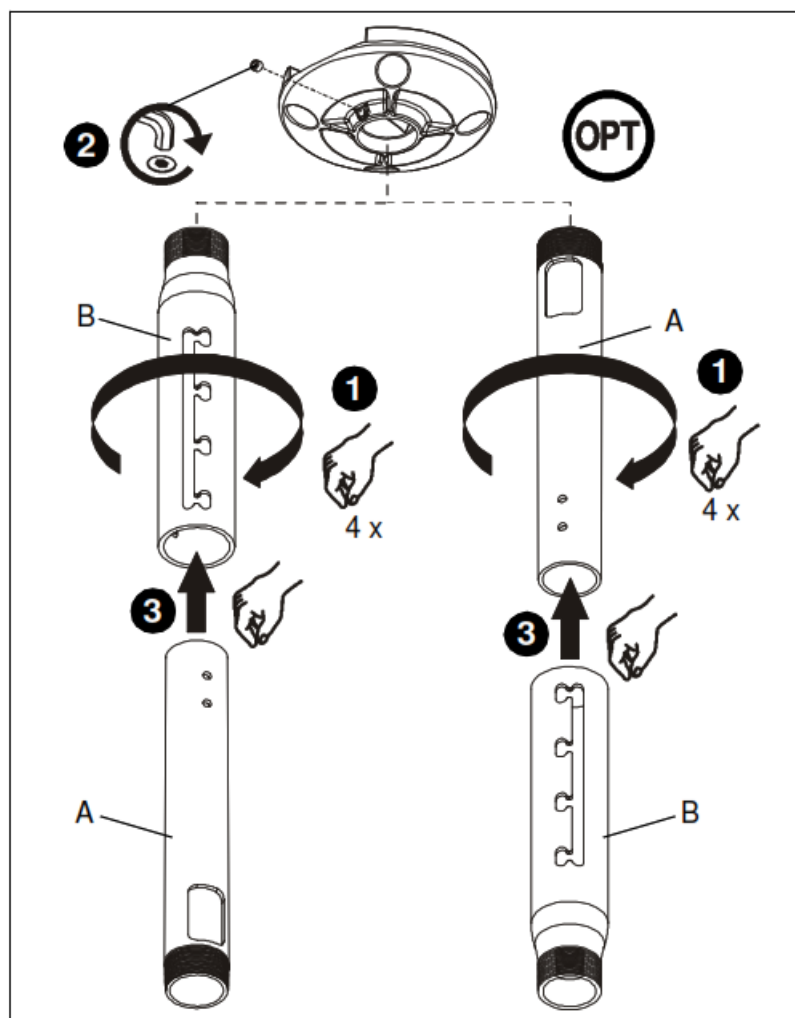

Figure 2
1. Install 1-1/2" NPT threaded column (A or B, as applicable) into plate/adaptor (See Figure 2). Securely tighten column.
- Ensure cable access opening is rotated to desired position (optional installation, column (A)).
2. Secure column (A or B, as applicable) by tightening set screw in plate/adaptor (See Figure 2).
3. Install mating column (A or B, as applicable) (See Figure 2).